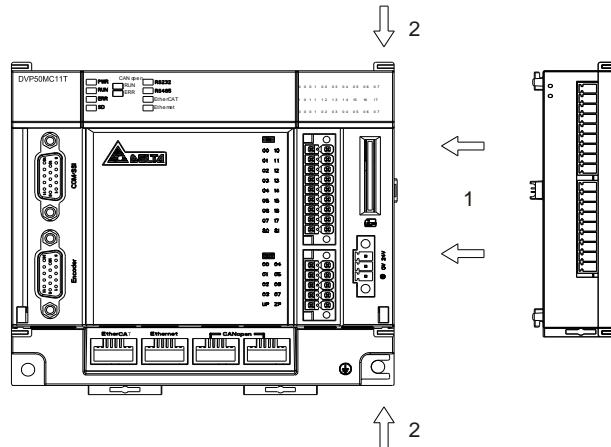

Figure 5.1.4.1
- Pull open the extension module clips on the top right and bottom right of the motion controller and install DVP16SP11T along four mounting holes in the four angles of the controller as step 1 in figure 5.1.4.1.
- Press the clips on the upper right and bottom right of the controller to fix the module tightly and ensure that their contact is normal as step 2 in figure 5.1.4.1.